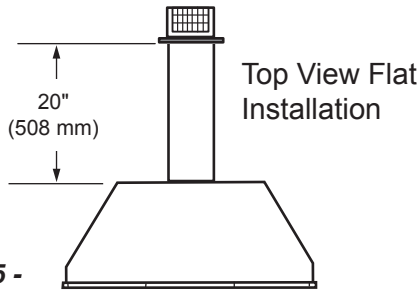

Figure 15 - Rear Vent Application, Maximum Horizontal Distance
- The maximum horizontal distance between the rear of the appliance and the outside face of the rear wall is 20" (508 mm). *Figure 15*